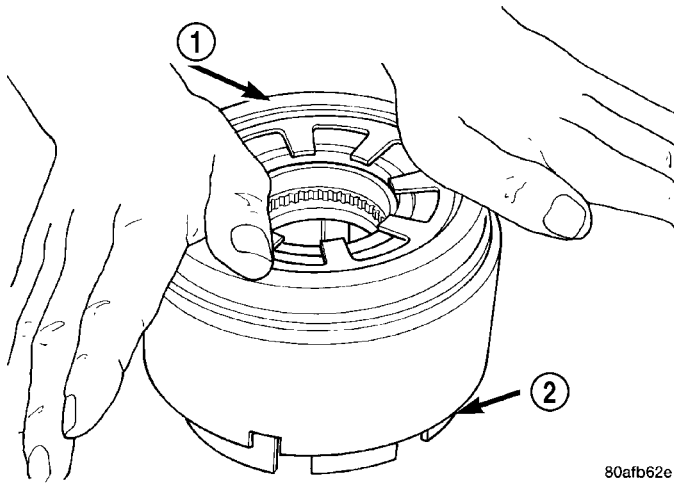

Fig. 241 Install OD/Reverse Piston
(4) Install the OD/Reverse piston assembly to the input clutch retainer as shown in (Fig. 241).